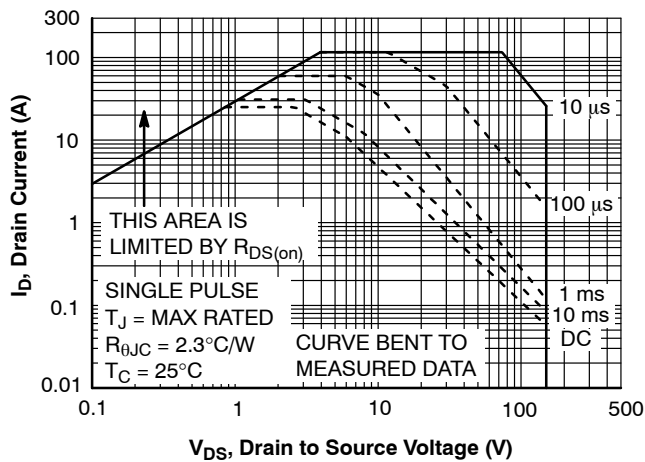

Figure 11. Forward Bias Safe Operating Area
- Pulsed I_d please refer to Figure 11 SOA graph for more details.